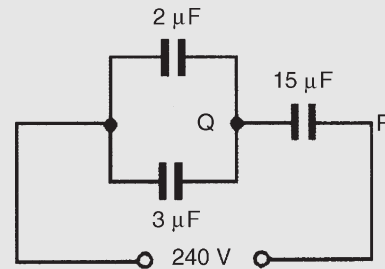

Figure 6.9
**Problem 14.** For the arrangement shown in Fig. 6.9 find (a) the equivalent capacitance of the circuit, (b) the voltage across  $QR$  and (c) the charge on each capacitor.